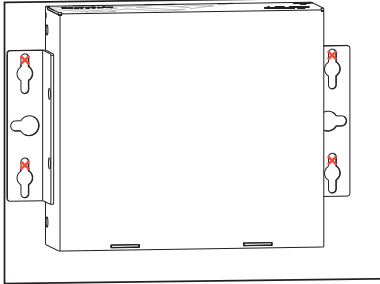

FIG. 5 Mark screw positions
1. Place the module in the desired final position on the mounting surface and mark the screw position as indicated in FIG. 5.